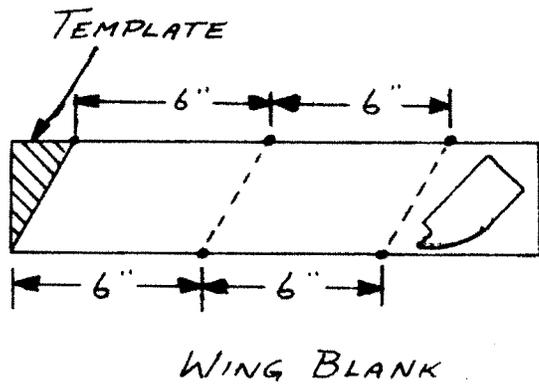

FIG 3
1. Using the Template (on Fuselage plan) as a guide, mark the angle on the wood and measure the wings as indicated in Fig. 3 then cut the wings.